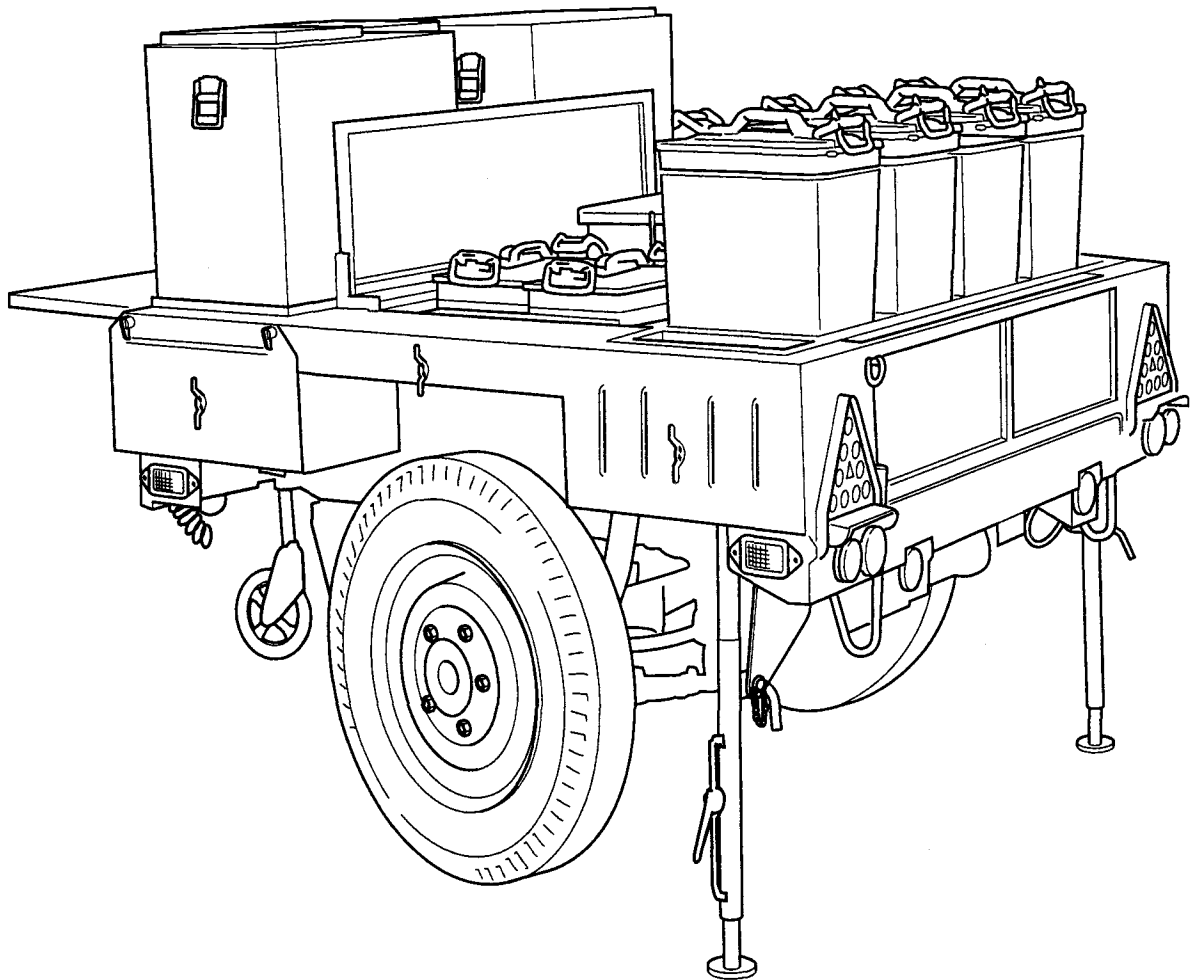

Fig 6 Baskets removed
- 7 Release clamps holding front, centre and rear baskets. Remove baskets as shown in Fig 6. Place rear basket with fire extinguishers in a readily accessible place.